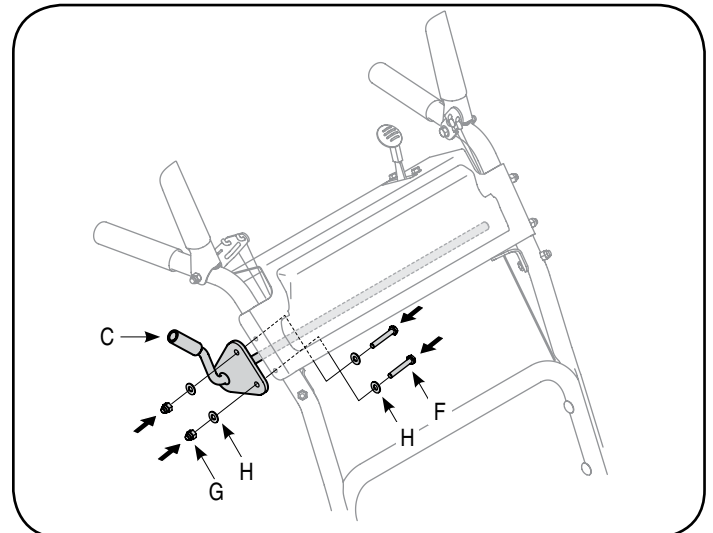

Figure 4
3. Align holes in rod assembly [C] with holes in panel and secure with the following items from the hardware pack, Figure 4: